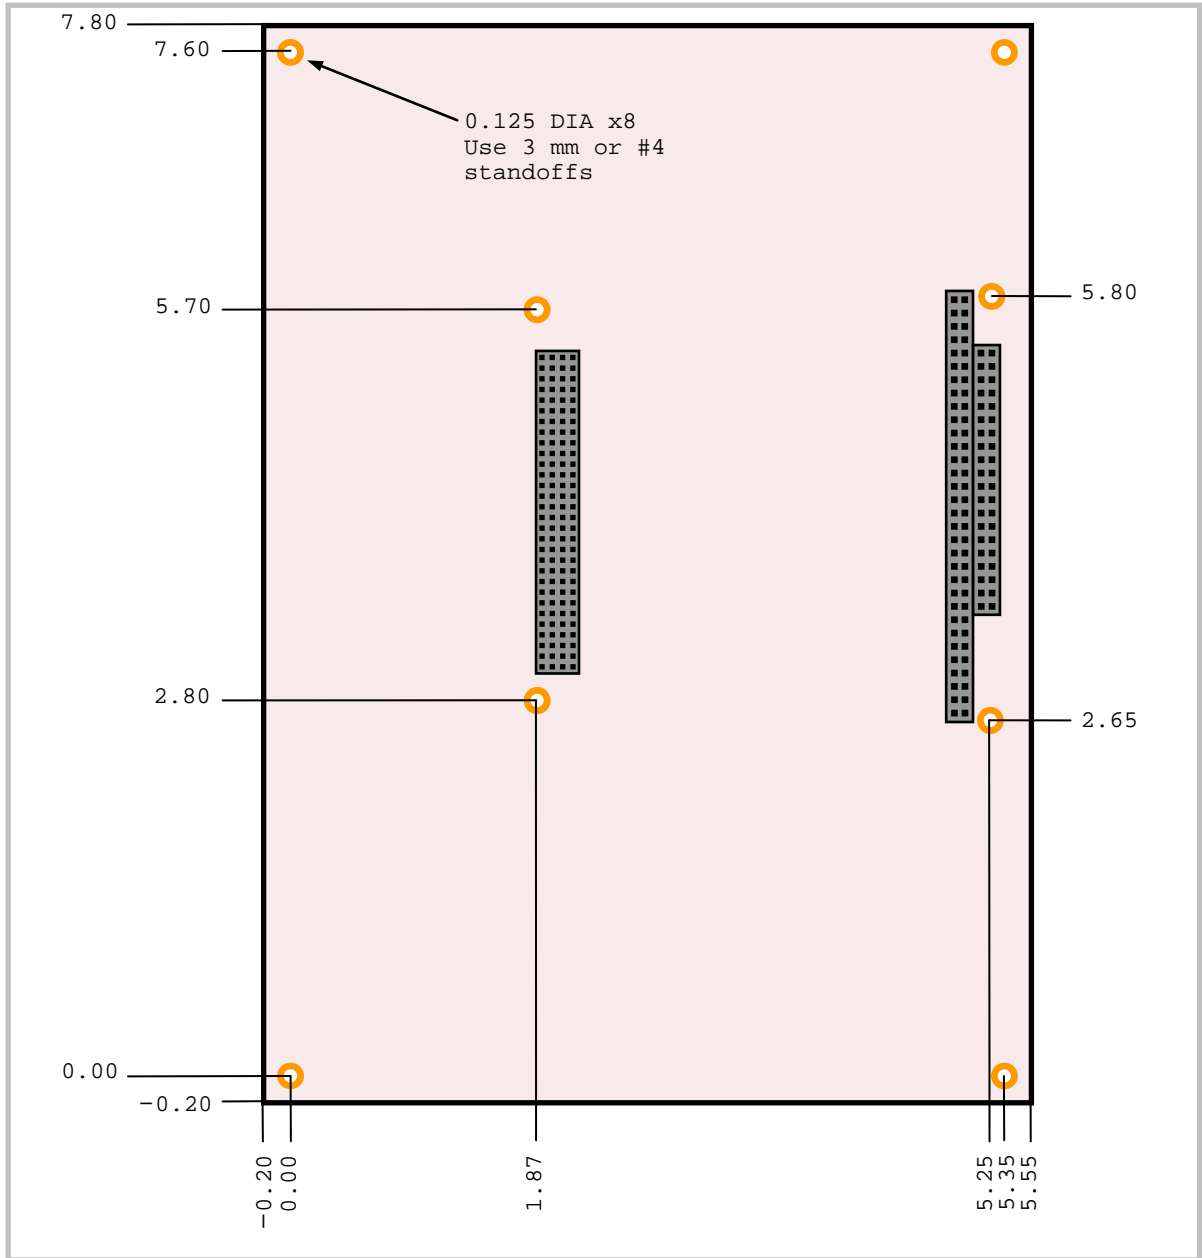

Figure 3. VL-EBX-37 Dimensions and Mounting Holes
- The PCB origin is the mounting hole to the lower left as shown in Figure 3 (lower right when viewing bottom side of board).